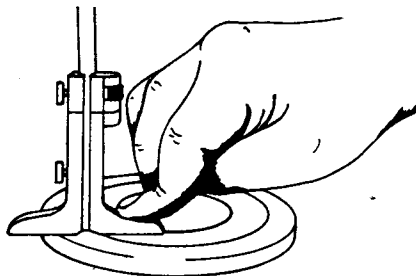

Fig H1.55
- (2) Refer to Fig H1.55. Measure the height of the overlap of the cover, which should maintain the bearing in position.
- (3) The difference between the measurements taken in steps (1) and (2), plus 0,10 mm (maximum permitted load for this bearing) is the thickness of the required washer(s).
- (4) Fit the oil seal retainer (see Sub-sub-section H1.3, Chapter 10) using washers of the thickness calculated above.